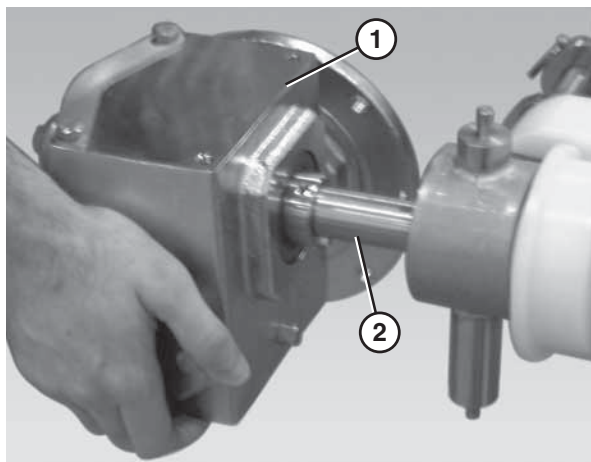

Figure 5
2. Slide the gearmotor assembly (Figure 5, item 1) onto the drive spindle (Figure 5, item 2).